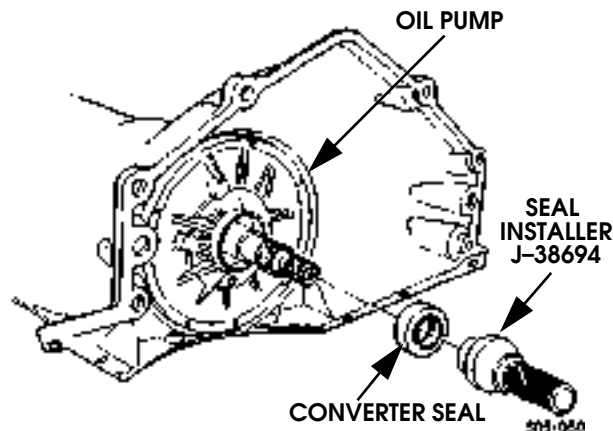

Figure 5-43: Oil Pump Seal Installation
6. Install converter seal with tool J-38694 (Figure 5-43).